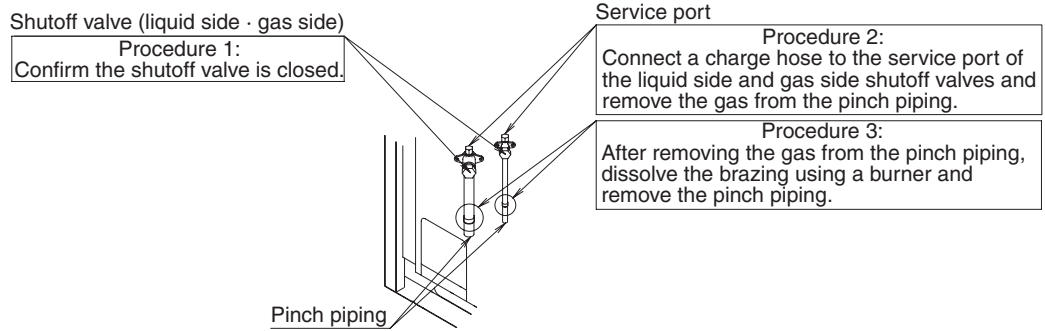

figure 13
- When connecting refrigerant piping to an outdoor unit, remove the pinch piping. (Refer to figure 13)
- Pinch piping should be removed using the procedure in the figure 13.